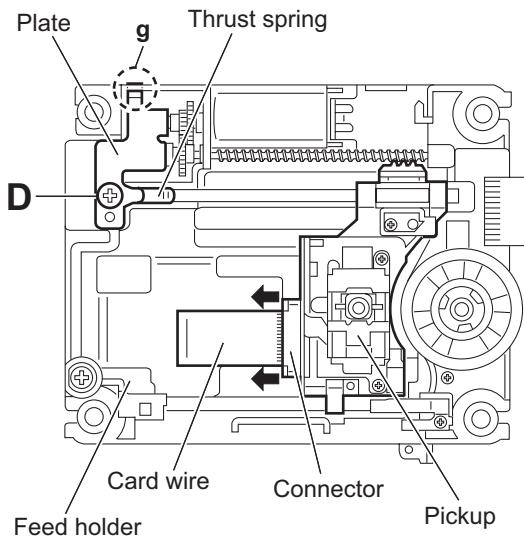

Fig.7
- Release the lock of the connector on the pickup in the direction of the arrow and disconnect the card wire. (See Fig.7.)
- Remove the screw **D** attaching the plate and thrust spring. (See Fig.7.)
- Remove the engagement section **g** attaching the plate to the feed holder and remove the plate with the thrust spring. (See Fig.7.)
- (3) Attach the plate and thrust spring. (See Fig.7.)
(See Figs.7,11 and 12)
- (1) From the top side of the traverse mechanism assembly, remove the screw **D** attaching the plate and thrust spring. (See Fig.7.)
- (2) Remove the engagement section **g** attaching the plate to the feed holder and remove the plate with the thrust spring. (See Fig.7.)